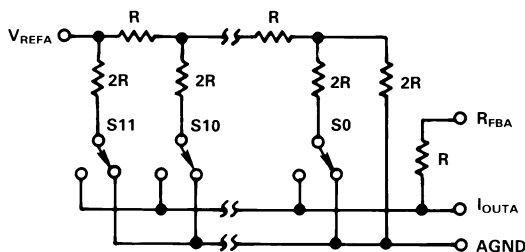
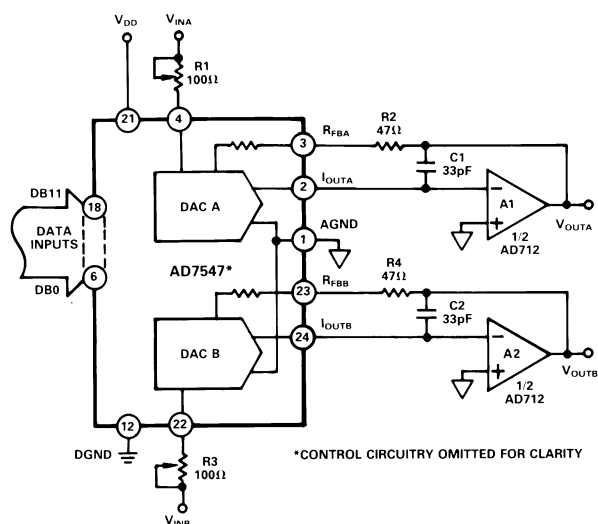
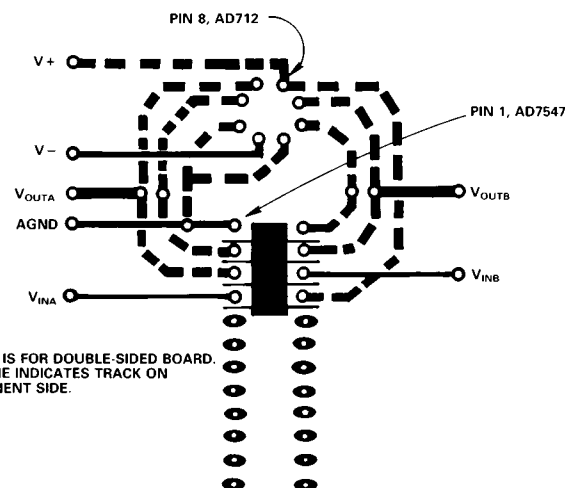

Figure 2. Simplified Circuit Diagram for DACA
Figure 4. AD7547 Unipolar Binary Operation
Figure 10. Suggested Layout for Circuit of Figure 4
The AD7547 contains two identical 12-bit multiplying D/A converters. Each DAC consists of a highly stable R-2R ladder and 12 N-channel current steering switches. Figure 2 shows a simplified D/A circuit for DAC A. In the R-2R ladder, binary weighted currents are steered between IOUTA and AGND. The current flowing in each ladder leg is constant, irrespective of switch state. The feedback resistor RFBA is used with an op-amp (see Figures 4 and 5) to convert the current flowing in IOUTA to a voltage output.
Figure 4 shows the circuit diagram for unipolar binary operation. With an ac input, the circuit performs 2-quadrant multiplication. The code table for Figure 4 is given in Table II.
Table II. Unipolar Binary Code Table for Circuit of Figure 4
**Output Offset:** CMOS D/A converters in circuits such as Figures 4 and 5 exhibit a code dependent output resistance which in turn can cause a code dependent error voltage at the output of the amplifier. The maximum amplitude of this error, which adds to the D/A converter nonlinearity, depends on  $V_{OS}$ , where  $V_{OS}$  is the amplifier input offset voltage. To maintain specified operation, it is recommended that  $V_{OS}$  be no greater than  $(25 \times 10^{-6})(V_{REF})$  over the temperature range of operation. Suitable op amps are the AD711C and its dual version, the AD712C. These op amps have a wide bandwidth and high slew rate and are recommended for wide bandwidth ac applications. AD711/AD712 settling time to 0.01% is typically  $1\mu s$ .
**Temperature Coefficients:** The gain temperature coefficient of the AD7547 has a maximum value of  $5\text{ppm}/^{\circ}\text{C}$  and typical value of  $1\text{ppm}/^{\circ}\text{C}$ . This corresponds to worst case gain shifts of 2LSBs and 0.4LSBs respectively over a  $100^{\circ}\text{C}$  temperature range. When trim resistors R1(R3) and R2(R4) are used to adjust full-scale range as in Figure 4, the temperature coefficient of R1(R3) and R2(R4) should also be taken into account. For further information see "Gain Error and Gain Temperature Coefficient of CMOS Multiplying DACs", Application Note, Publication Number E630c-5-3/86 available from Analog Devices.
**High Frequency Considerations:** AD7547 output capacitance works in conjunction with the amplifier feedback resistance to add a pole to the open loop response. This can cause ringing or oscillation. Stability can be restored by adding a phase compensation capacitor in parallel with the feedback resistor. This is shown as C1 and C2 in Figures 4 and 5.
**Feedthrough:** The dynamic performance of the AD7547 depends upon the gain and phase stability of the output amplifier, together with the optimum choice of PC board layout and decoupling components. A suggested printed circuit layout for Figure 4 is shown in Figure 10 which minimizes feedthrough from  $V_{REFA}$ ,  $V_{REFB}$  to the output in multiplying applications.